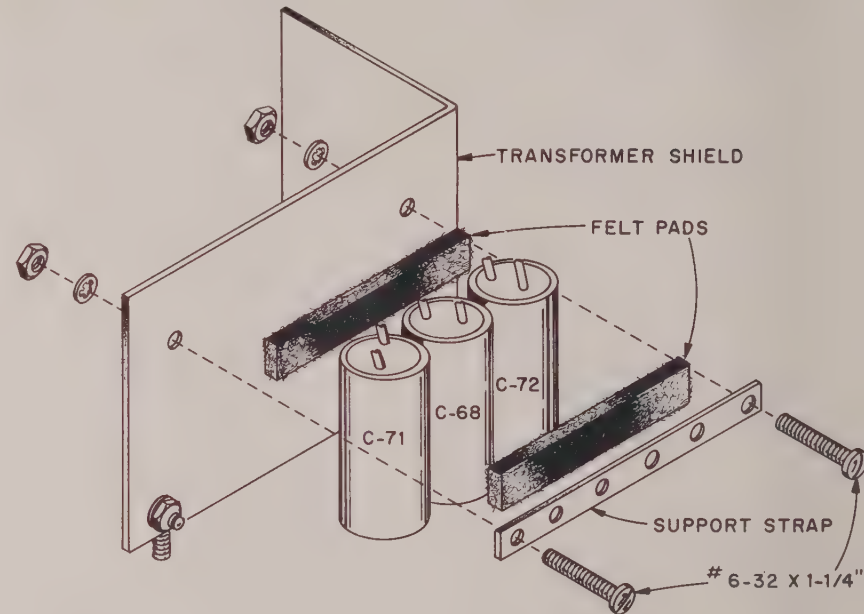

FIGURE 22. MOUNTING C-68, C-71 AND C-72
- ☒ C-72, 68, 71. 1000 μ f electrolytic capacitors. Mount as shown in Figure 22 with 2 felt pads, jack support strip and two 6-32x1- $\frac{1}{4}$ " screws, lockwashers and nuts. Push all six wires through the grommet on the power supply shield.